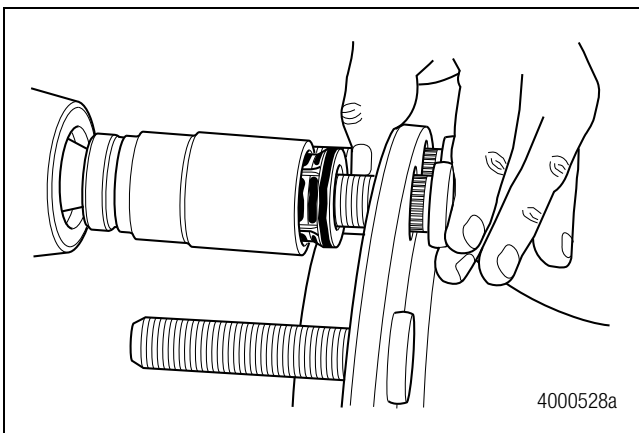

Figure 6.45
10. Position the nuts onto the studs. Use a 1/2-inch (12.7 mm) drive impact wrench to draw the stud into the hub. Do not exceed 300 lb-ft (408 N•m). Figure 6.45.